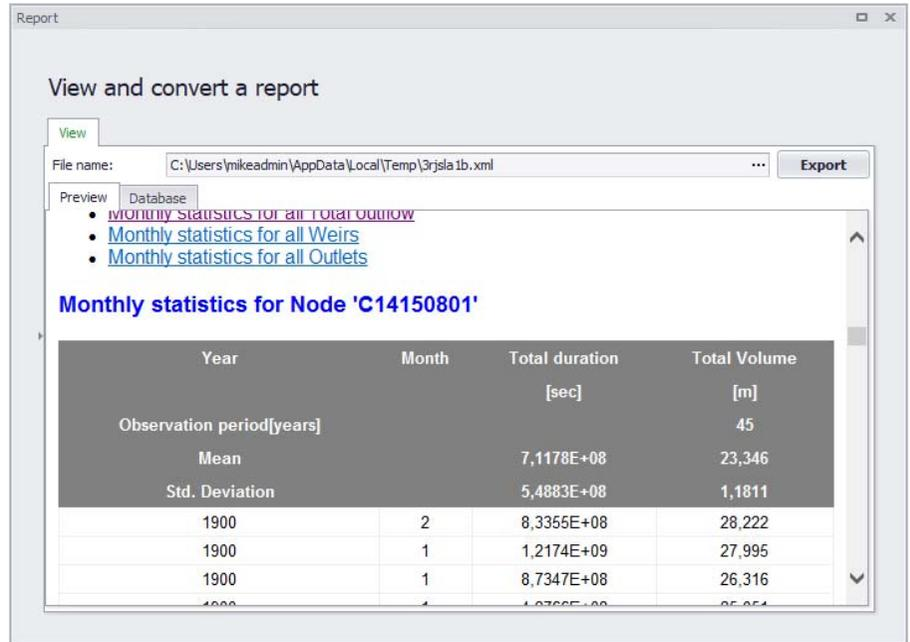

Figure 19.68 Example LTS chronological statistics report
- Click on the ‘OK’ button to create a new LTS chronological statistics report. An example is shown in Figure 19.68. Note that it is not possible to customize data series labels (i.e. Edit alias) for LTS reports, nor is it possible to edit existing LTS reports from the dialog.